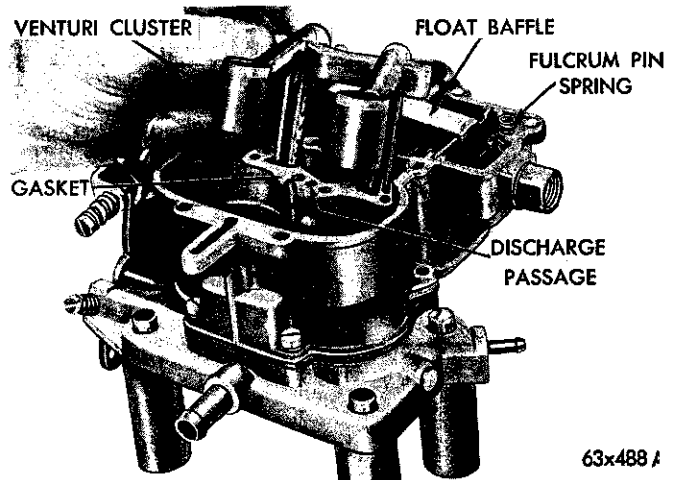

Fig. 6—Removing the Venturi Cluster
(1) Remove the venturi cluster attaching screws, the venturi cluster and gasket, as shown in Figure 6. Discard the gasket.
(2) Remove the float fulcrum pin spring, the fuel inlet needle valve, seat and gasket.
(3) Slide the float baffle up and out of its grooves, and remove the float and fulcrum pin.
(4) Invert the carburetor main body and drop out the discharge check ball from the discharge passage (Fig. 6), and the accelerator pump inlet check ball from the pump well.
(4) Reinstall the check ball and test again. If still leaking, place a piece of drill rod down on the check ball and rap sharply with a hammer. Remove the old check ball and install a new one. Then retest. (This operation forms a new ball seat in the carburetor casting.)
(5) Install the venturi cluster gasket and slide the venturi cluster down into position (Fig. 6). Install attaching screws and tighten securely.